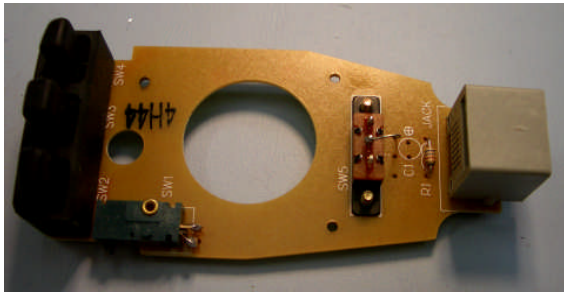

Figure 2.
5. See Fig. 2. Remove capacitor C1.